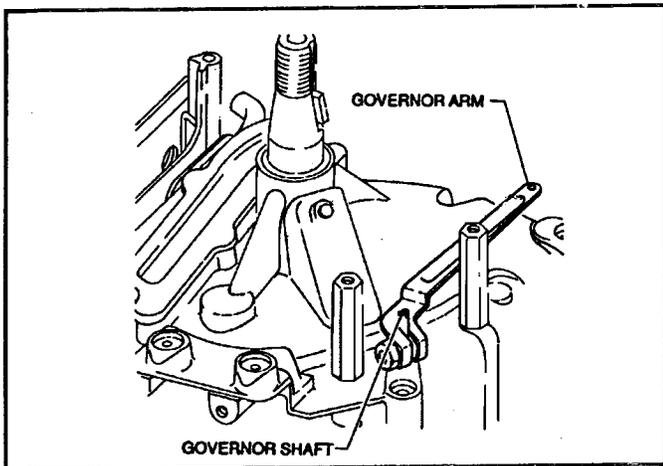

Figure 53
1. Loosen the 3/8" nut retaining the throttle control lever to the governor shaft. See Figure 53.